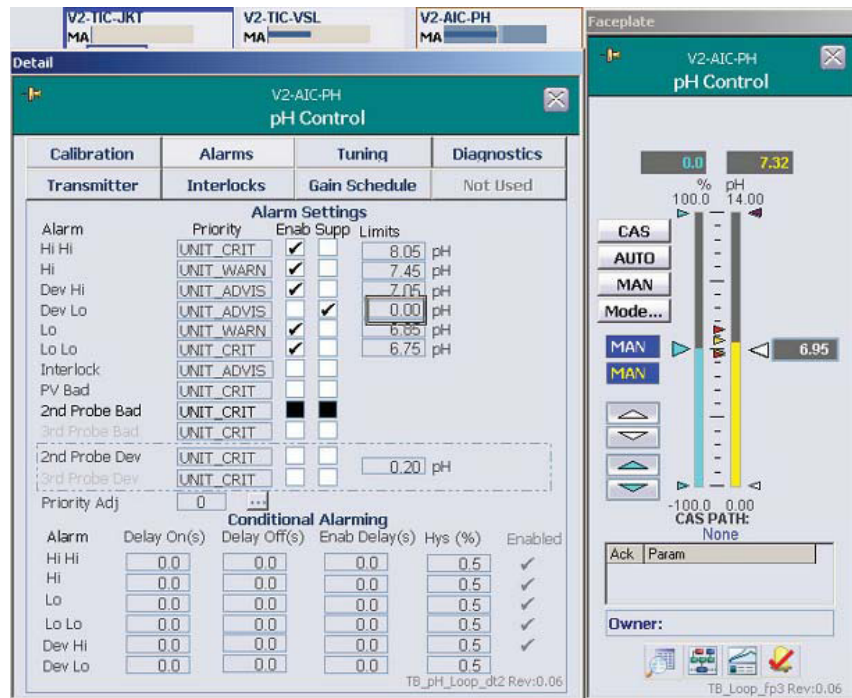

Figure 3.2. Alarm settings screen for pH control.
- The **Deadband** is the area around the setpoint over which the pH or DO process value (PV) will normally fluctuate, and within which no alarms are set. Setting up a deadband allows these normal fluctuations to resolve without triggering the control loops.
- To set control limits and alarms for any parameter, open the faceplate for that parameter, click **Detail**, and then select the “Alarms” tab. Figure 3.2 shows the alarm settings for pH control, as an example.